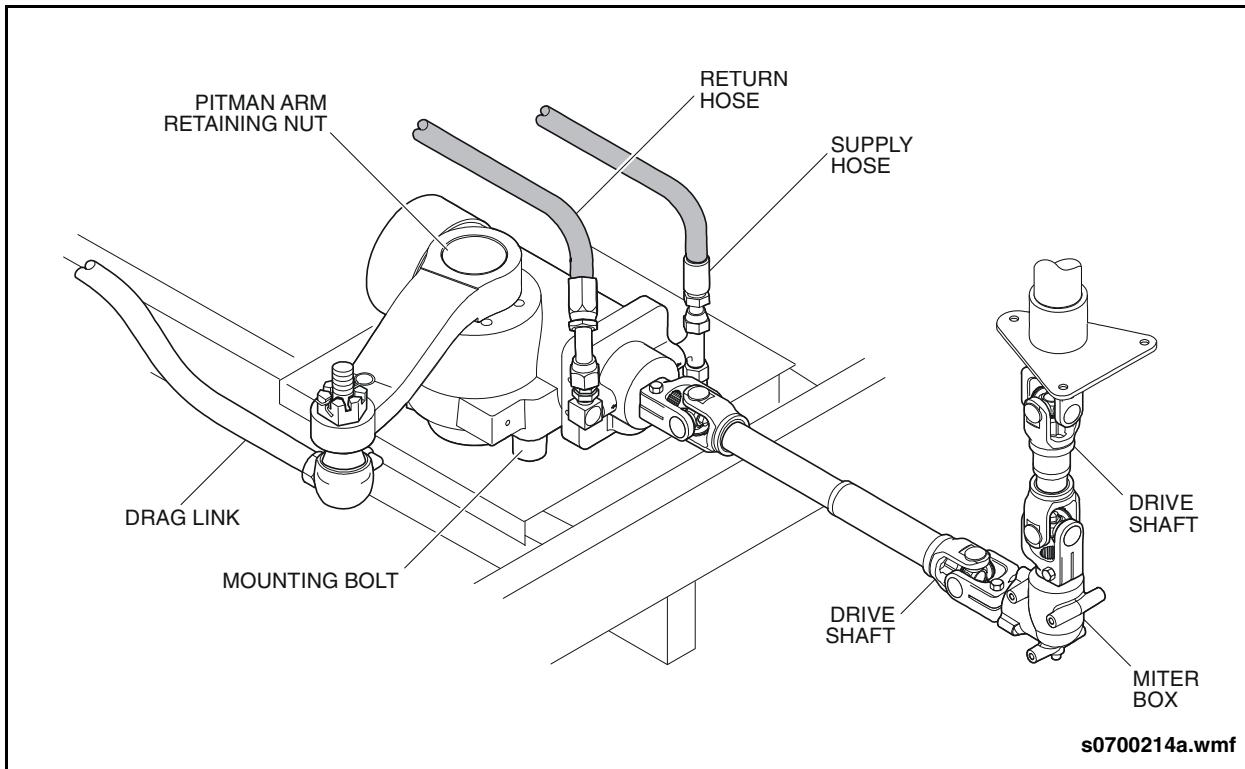

Fig. PM-13: Steering Gear Inspection
- Visually inspect all steering components for any evidence of damage. See "Fig. PM-13: Steering Gear Inspection" on page 41.